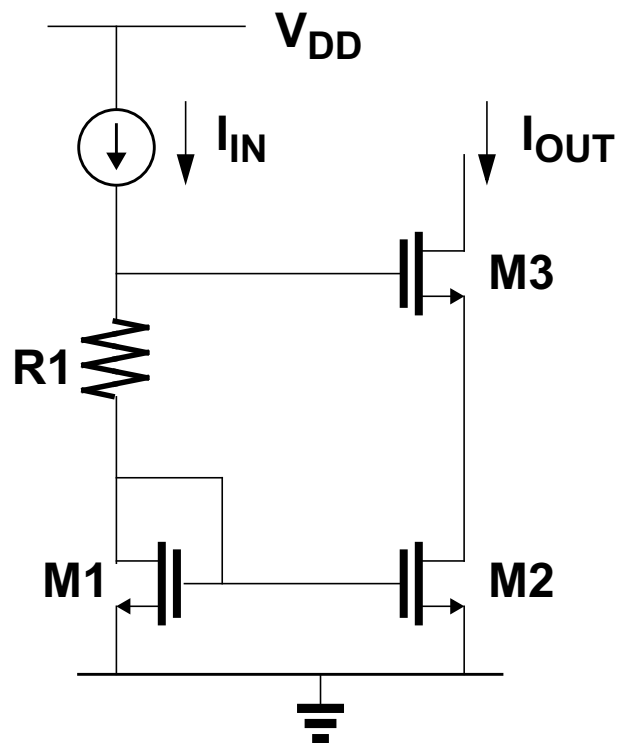

Figure 2
(i) Figure 2 shows a gain stage with a diode-connected load. Draw the small-signal model for this circuit. Note DC bias current source is open-circuit in small-signal model.
Figure 2 shows a cascoded current mirror.
- (i) Figure 2 shows a gain stage with a RC load. Draw the small-signal model for this circuit.